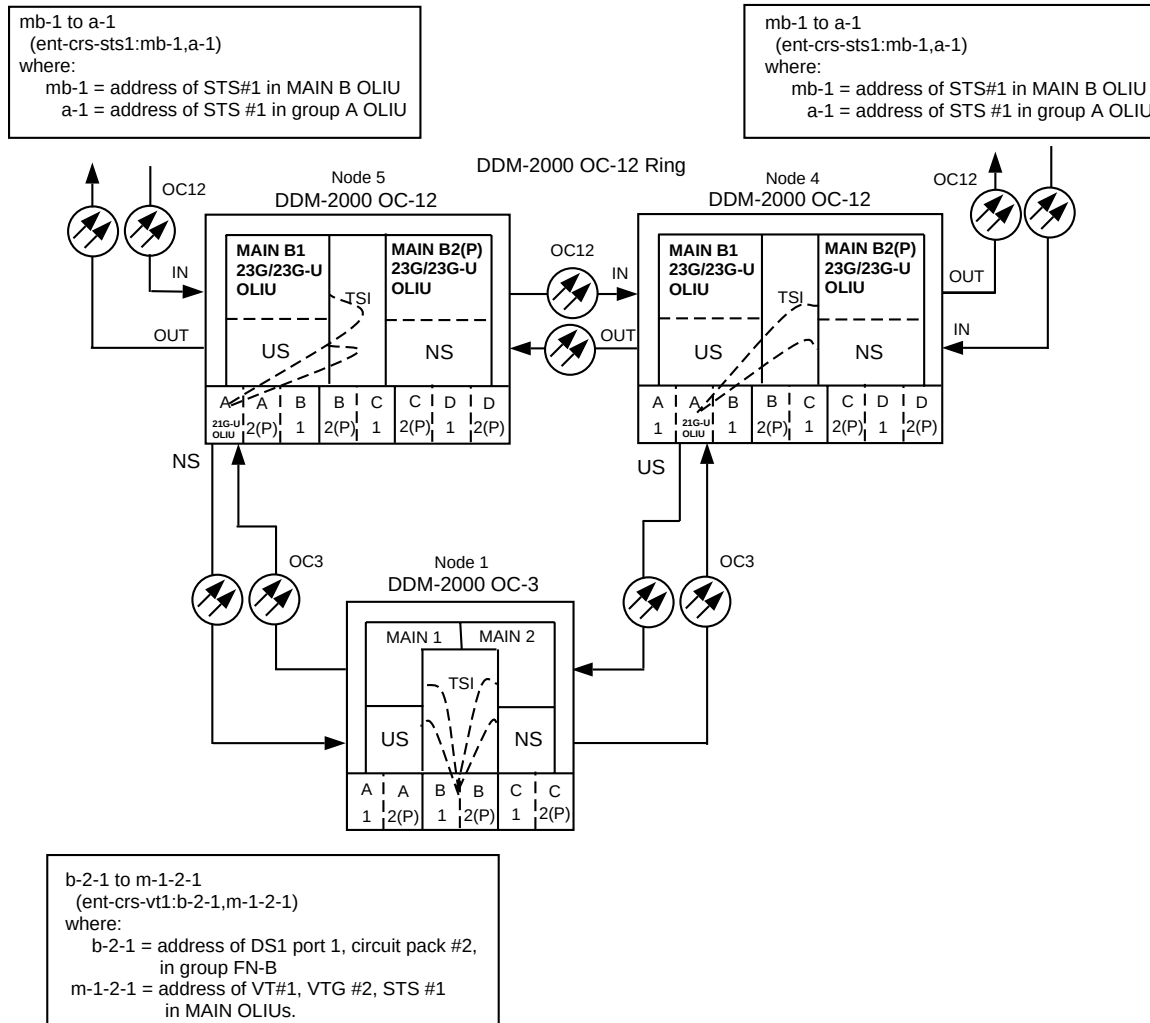

Figure 5. Example of Dual Homing OC-12/OC-3 Cross-connections
10. At both terminating (drop) nodes of the circuit being established, use the **ent-crs-()**: command to make the terminating cross-connections (for example at the OC-3 node in Figure 5,
11. At the host OC-12 ring node sites, make proper cross-connections. For example, in Figure 5 at Node 5, if STS-1 channel #1 from the OC-3 **MAIN-1 OLIU** is to be cross-connected to STS#1 in the OC-12 **MAIN-B-1 OLIU** then the command **ent-crs-sts1:mb-1,a-1:cct=twoway** would be used to make the cross-connection.